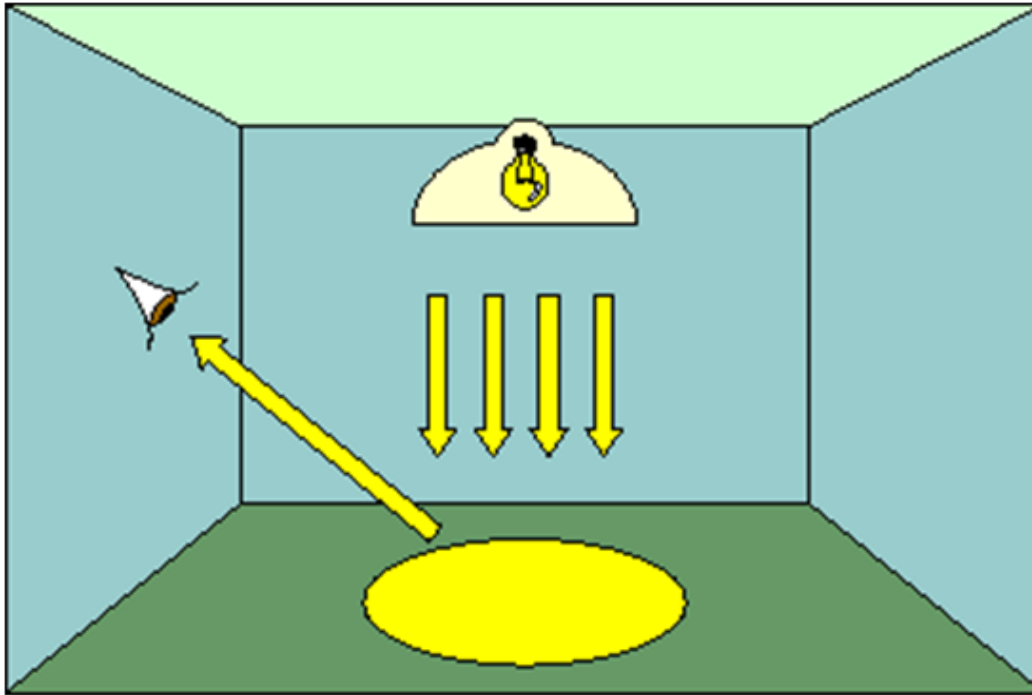

Fig. PF-7-1-4
- This is depicted diagrammatically in **Fig PF-7-1-4**